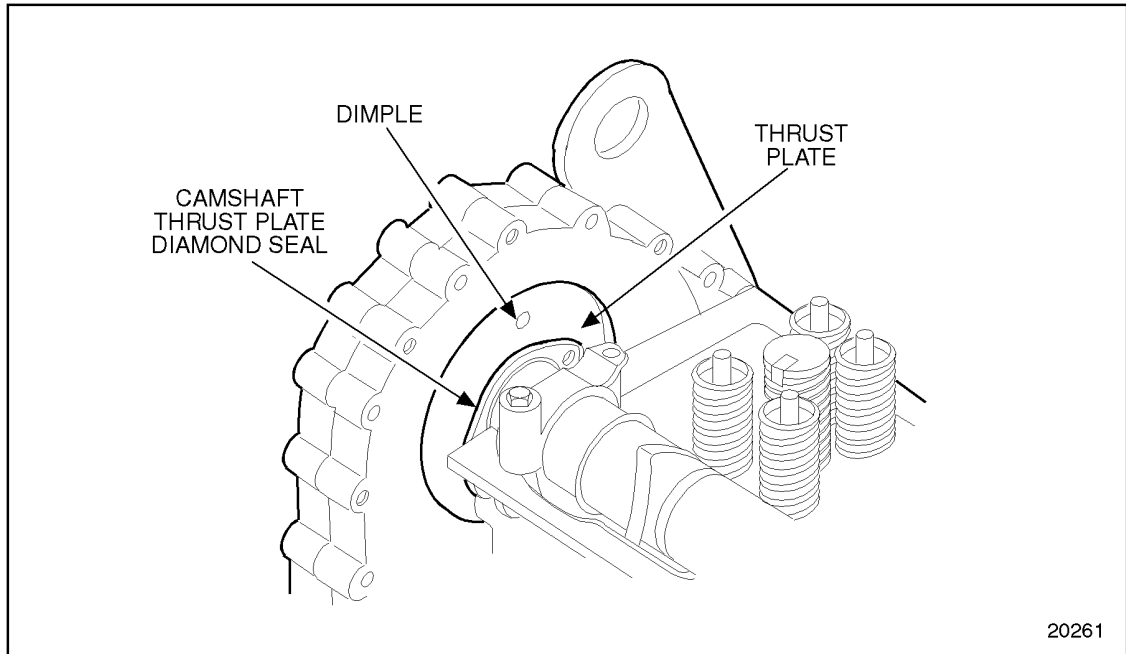

Figure 1-301 Camshaft Thrust Plate Clearance
12. Continue turning the puller screw to pull the camshaft drive gear hub and thrust plate forward approximately 6-7 mm (1/4 in.) until the thrust plate seal is clear of the camshaft front bearing cap and cylinder head. See Figure 1-301.